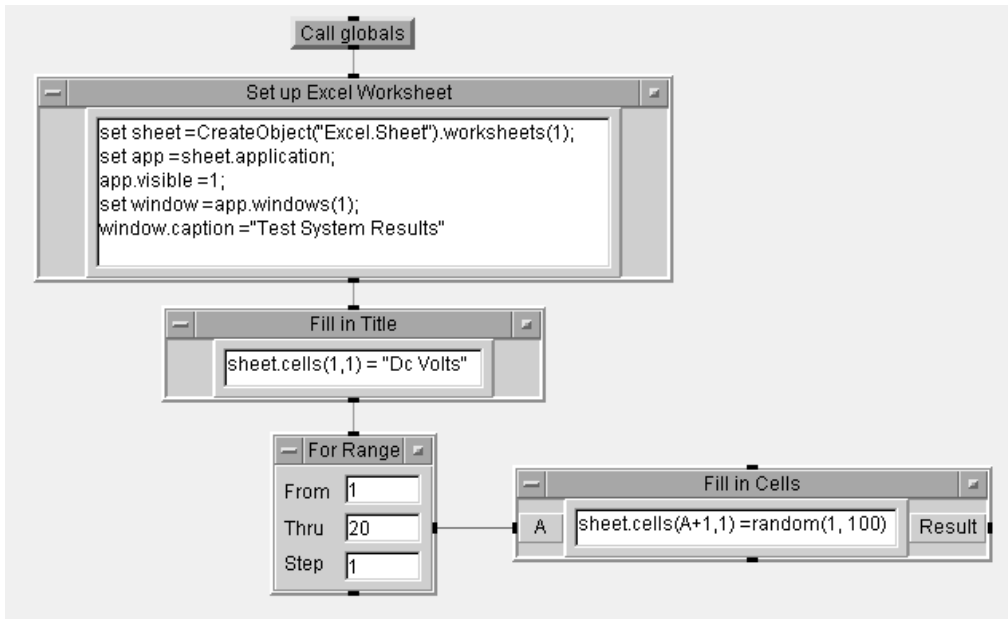

Figure 9.4. Worksheet title and data entries
23. Rename the Formula objects, connect them, and configure them as shown in Figure 9.4; be certain to delete the “Fill in Title” input and output pins.